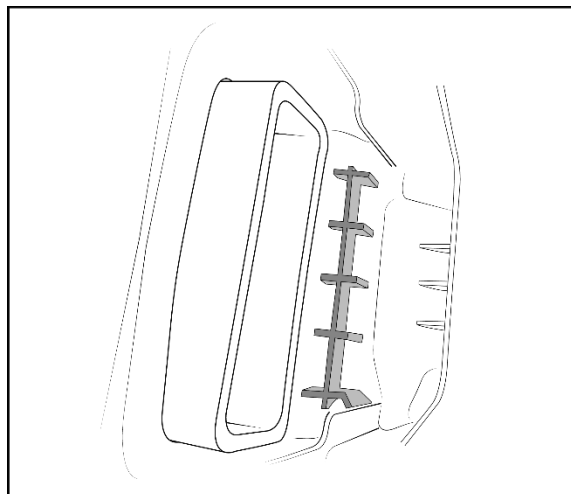

Figure 9
- Slide intake portion of AEV snorkel into airbox body until fully seated together (Note: MY24 3.6 L Airbox will need the ribs in the intake to be ground down until the AEV snorkel fully seats (Fig.9)). It will lock into the airbox the same way as the factory inlet. RTV or silicone is not required at this joint but can be added if desired for excessively dusty or wet conditions (fig. 10).